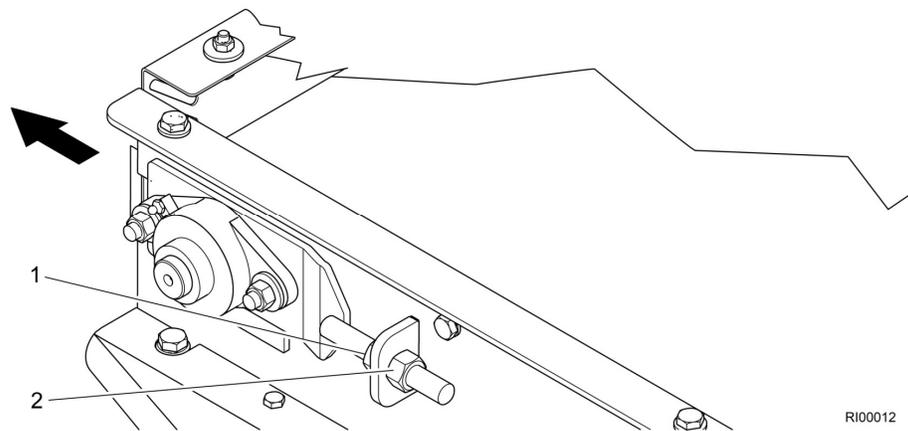

Fig. 52 Readjusting the conveyor belt
1. If the conveyor belt is running to the left, for example, and is brushing against the left side of the conveyor unit, loosen the counter nut (Fig. 52/2) on the left side of the conveyor belt.
2. Gradually turn the nut (Fig. 52/1) half a turn clockwise.
3. Tighten the counter nut (Fig. 52/2).